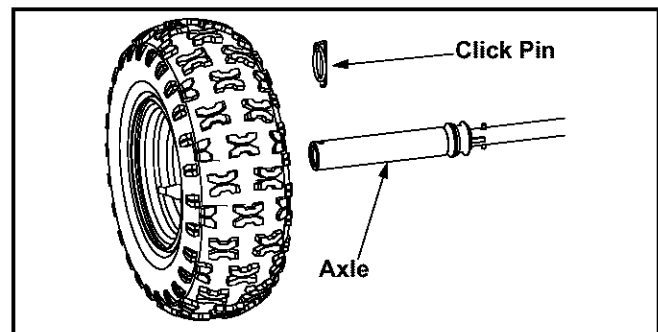

Figure 21
- Oil or spray lubricant into bearings at least once a season. Pull the click pins and remove wheels, clean and coat axles with a multipurpose automotive grease. See Figure 21.